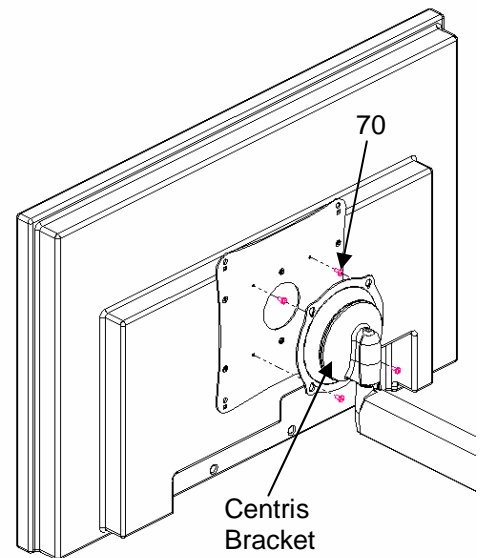

Figure 9. Attach Display to Centris Bracket
1. Start two M4 x 8mm Phillips pan head screws (70) into top mounting holes on interface bracket (20).
2. Align mounting holes on Centris Bracket with screws installed in Step 1 (see Figure 9).
3. Install remaining two M4 x 8mm Phillips pan head screws (70) into bottom mounting holes of Interface Bracket (20).